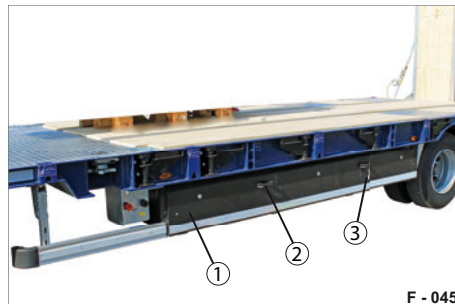
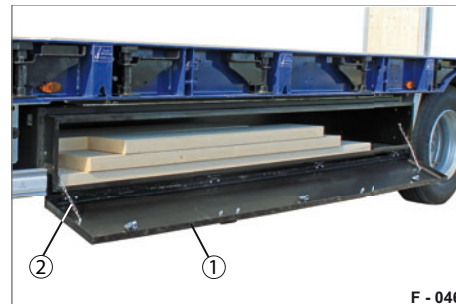

Fig. 109 Stowage box closed
Fig. 110 Stowage box open
- Unlock the lid (Fig. 110/1) with the key (Fig. 109/3). Hold the lid tightly by the handle (Fig. 110/2).
- Carefully fold the lid down. The lid is held with the two support chains (Fig. 110/2) attached to the side.
- Carefully fold the lid (Fig. 110/1) up. Make sure that the support chains (Fig. 110/2) do not get caught on the side of the lid/stowage box.
- Hold the lid by the handle (Fig. 109/2) and lock the lid at the three locking points with the key (Fig. 109/3). The stowage box is closed and secured.